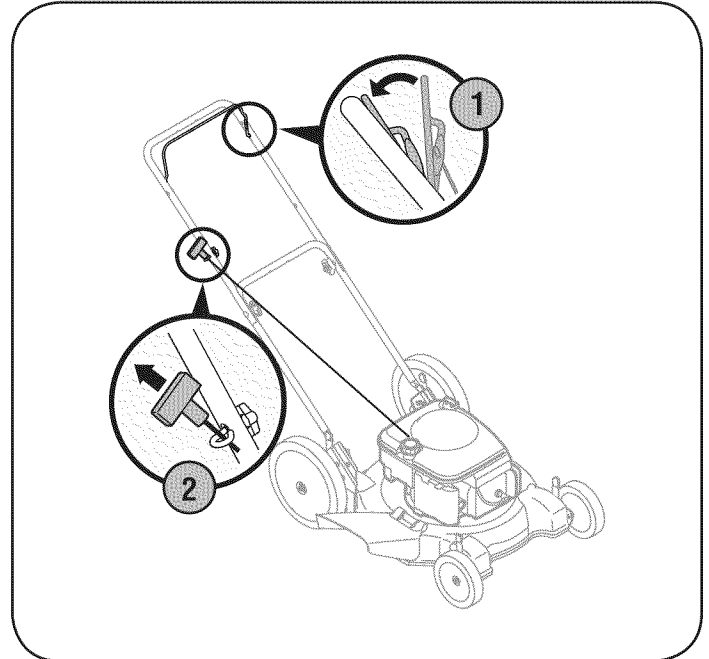

Figure 10
2. Holding these two handles together firmly, grasp recoil starter handle and pull rope slowly until resistance is felt, then pull with a rapid, continuous, full arm stroke. See Figure 10. Keeping a firm grip on the starter handle, let the rope rewind slowly. Repeat until engine cranks. Let the rope rewind each time slowly.